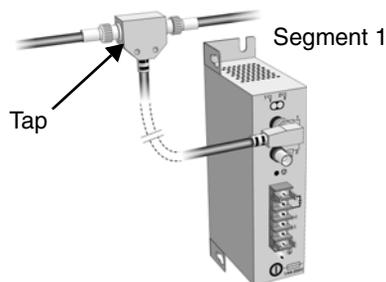

Figure 75. Connect the first tap to the repeater.
3. Connect the straight or right angle connector of the tap to the BNC connector of the repeater, see Figure 75.